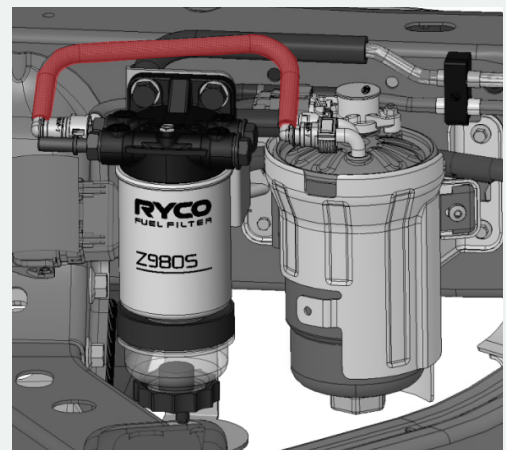

FIGURE 7
- 7 Connect the supplied MF9819A fuel hose to the outlet port fitting of the Z980SK16 (port 1 - inside) and connect the other end to the factory fuel filter inlet port and secure with the locker on. See FIG 7 for fuel hose routing.